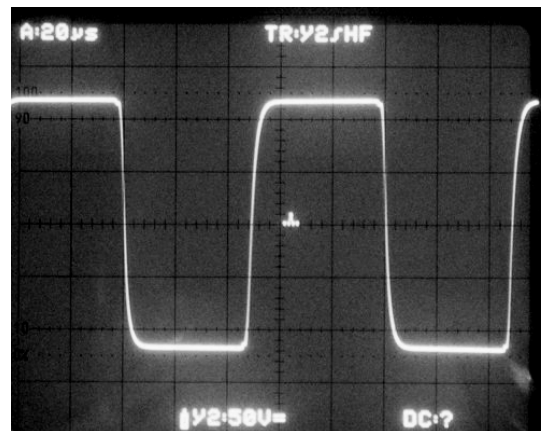

Figure 6. 240V_{pp} 10kHz square wave
- Square wave response (Fig. 6, 7)